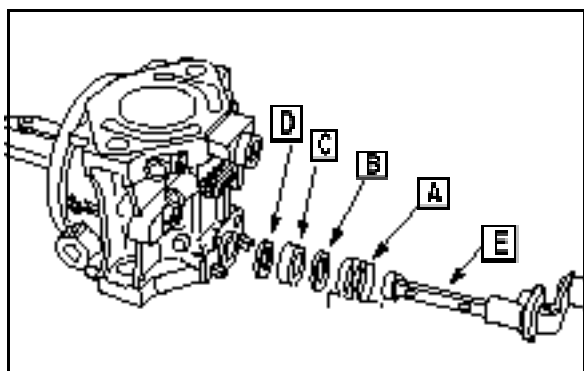

Fig. 83
7. Install spring (A), washer (B), bushing (C) and seal (D) to choke shaft ([E] Fig. 83).
8. Insert shaft to carburetor body, Fig. 83.